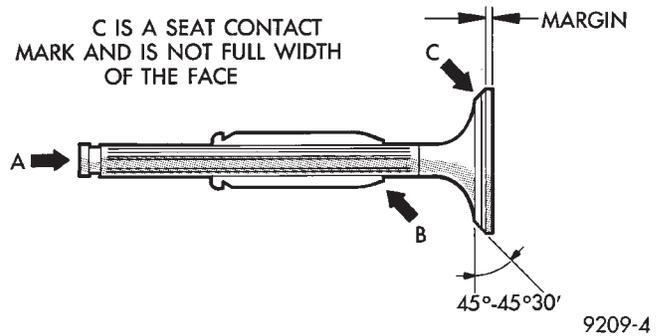

Fig. 19 Valve Inspection
- (1) Check valve stem tip for pitting or depression at point A (Fig. 19).
- (2) Check for wear and ridge wear at Point B.